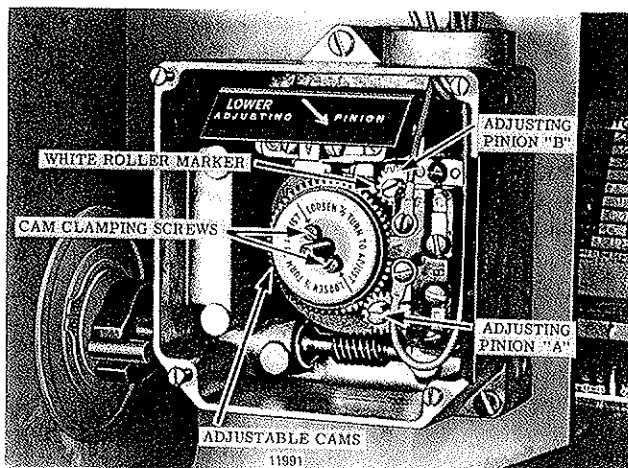

Figure 7-1. Geared Rotary Limit Switch Adjustment.
- a. This limit switch consists of two adjustable cams driven thru gear reduction by a worm gear shaft which flexibly couples to end of drum shaft. Each cam operates the contacts of separate switches; one for hoisting circuit and one for lowering circuit. The switch assembly must be wired in accordance with appropriate wiring diagram which is shipped with the hoist. Adjustment of the rotary limit switch is accomplished as follows: (Refer to Figure 7-1.)